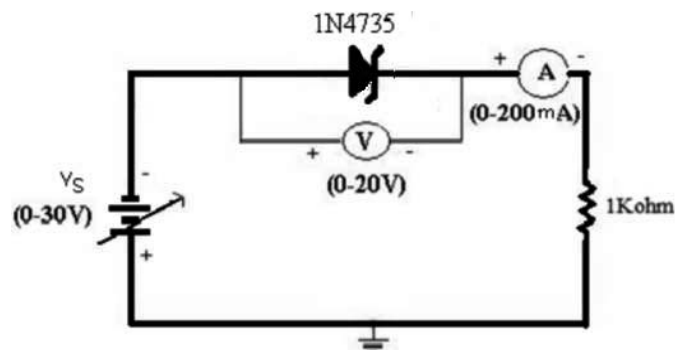

Figure 3: Reverse Bias Condition
1. Connect the Zener diode in reverse bias as shown in Figure 3.